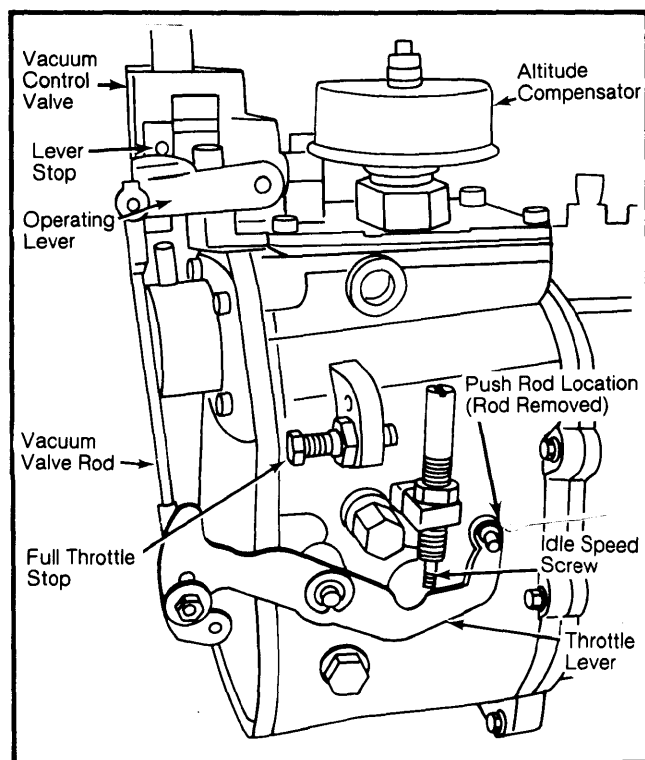

Fig. 11 Injection Pump Adjustment Locations
Installation – 1) Remove plug on side of pump and add $\frac{1}{2}$ pint engine oil for initial lubrication. Move throttle lever to full throttle stop. Vacuum valve rod should be adjusted so operating lever has .020" (.5 mm) clearance from lever stop. See Fig. 11.
1) Warm engine to normal operating temperature. Turn idle speed knob in dashboard clockwise to stop (if equipped). Disconnect push rod on throttle lever. See Fig. 11.